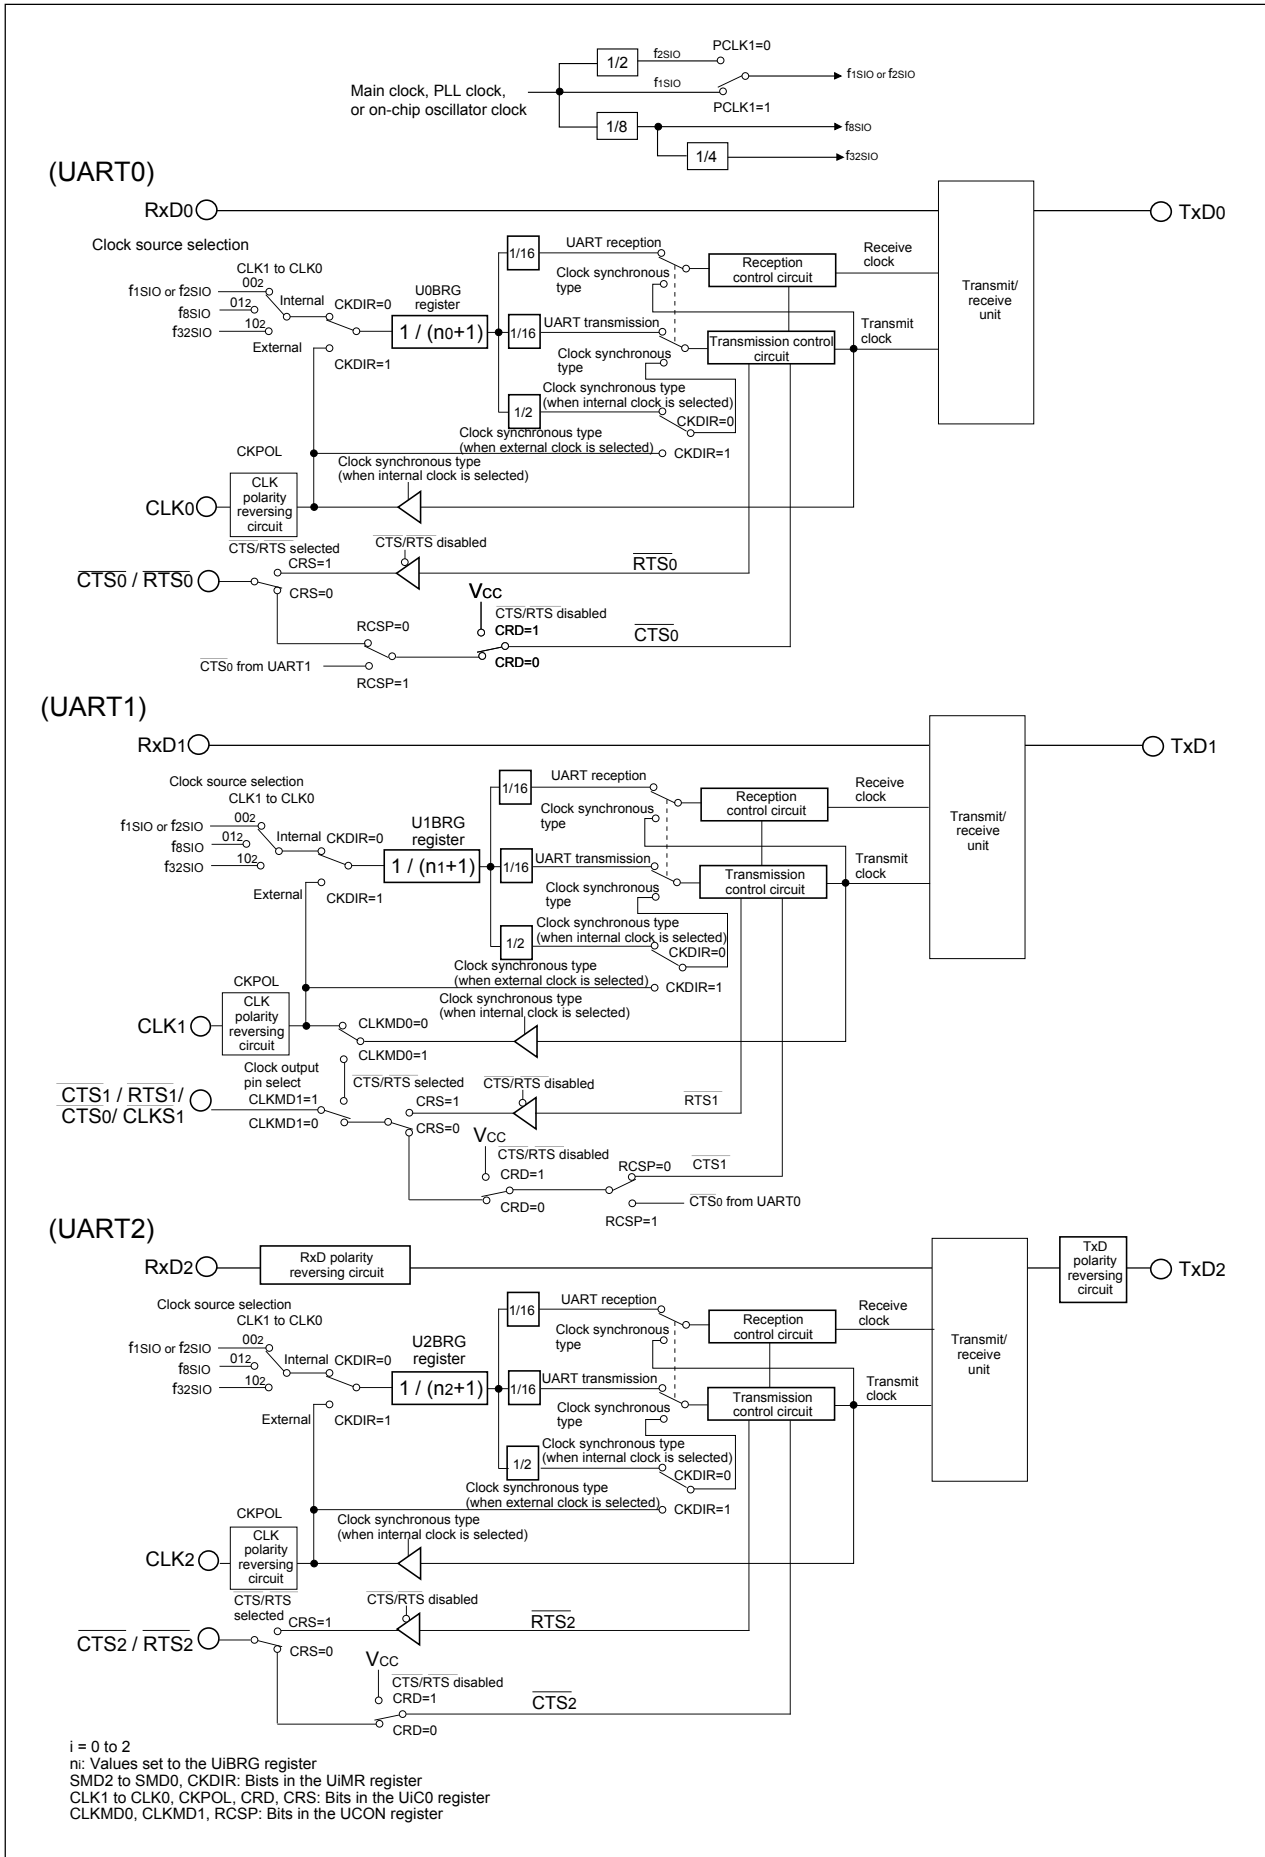
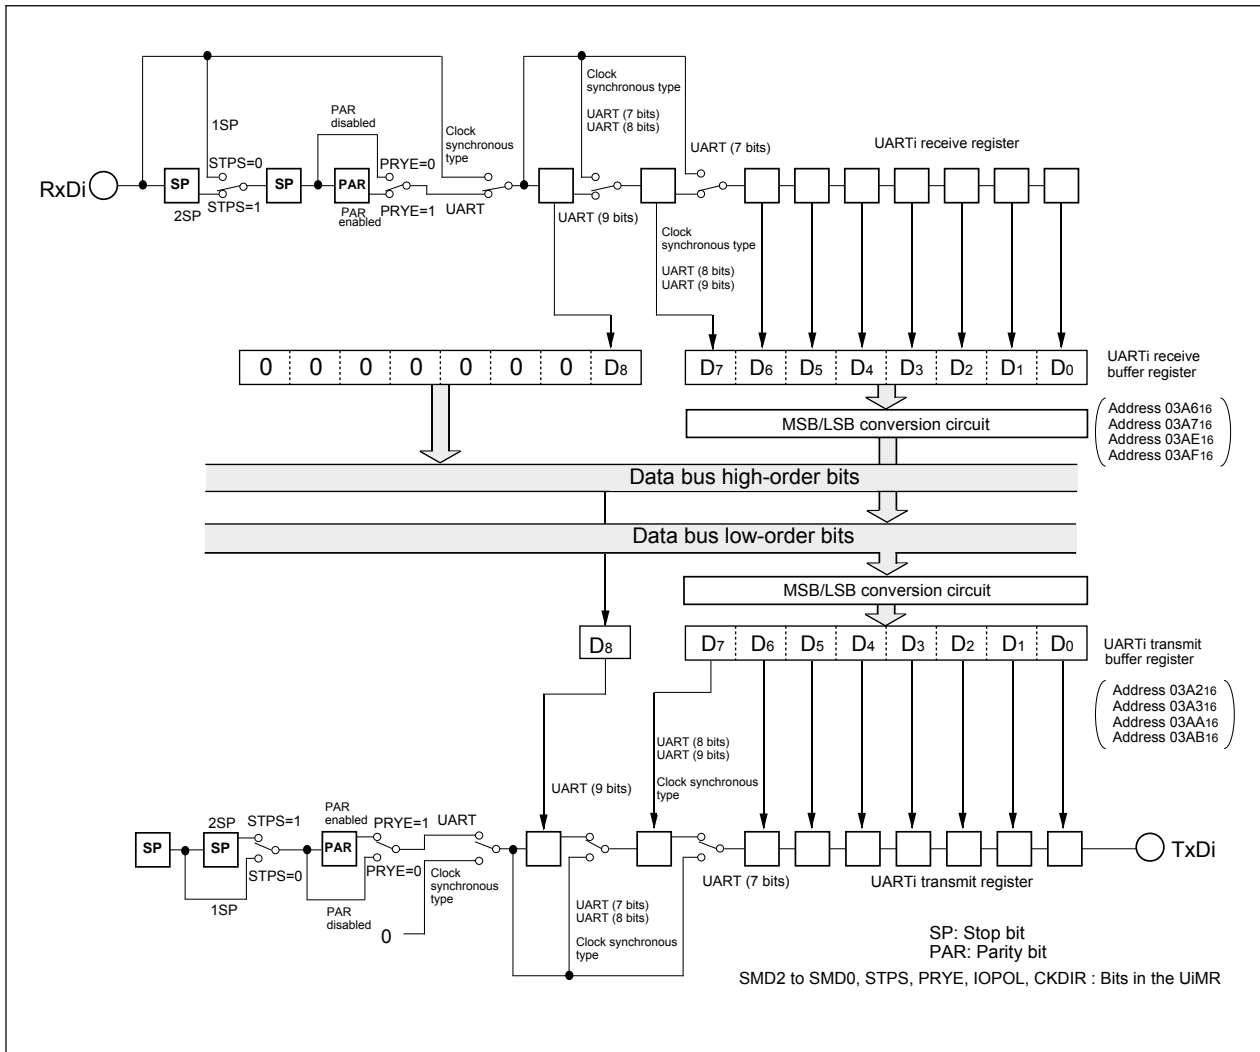

Figure 14.1 Block diagram of UARTi (i = 0 to 2)
Figure 14.2 Block diagram of UARTi (i = 0, 1) transmit/receive unit
**Figure 14.1** shows the block diagram of UARTi. **Figures 14.2** and **14.3** shows the block diagram of the UARTi transmit/receive.